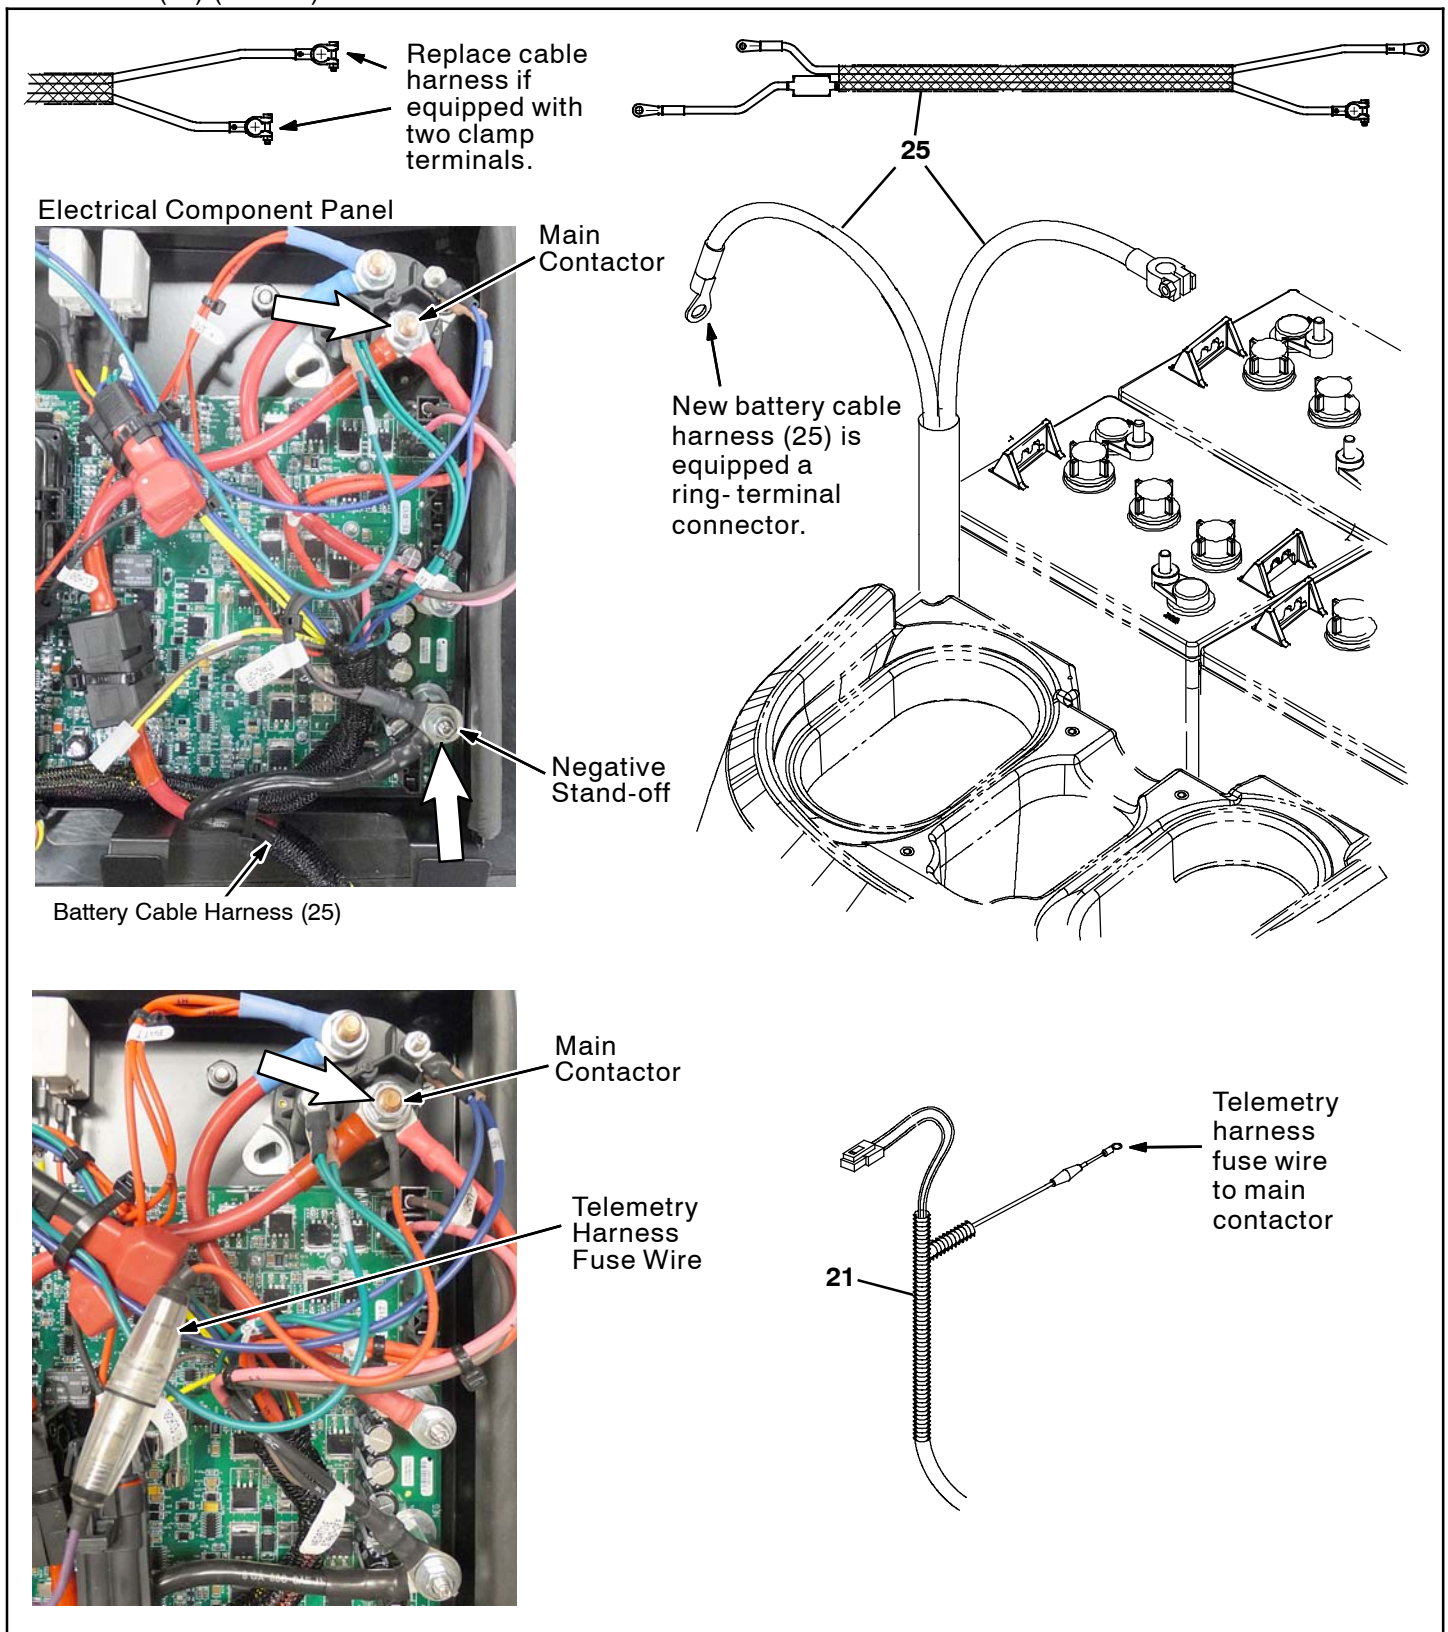

FIG. 18
19. If machine's existing battery cable harness is equipped with battery clamp terminal connectors remove the battery cable harness from the electrical component panel and install new battery cable harness (25) (FIG. 18).
20. Connect the red fuse wire from the routed telemetry harness (21) to the main contactor (FIG. 18).